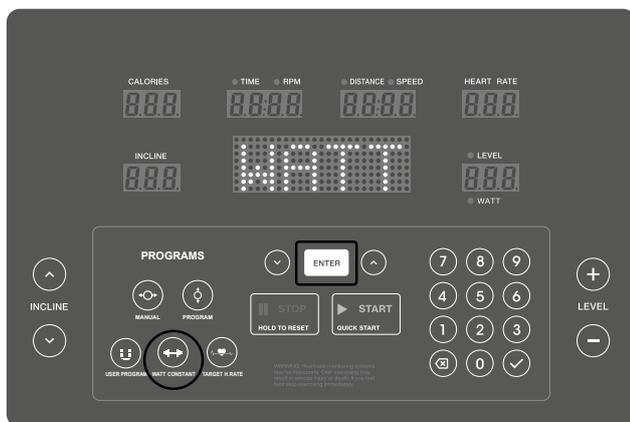
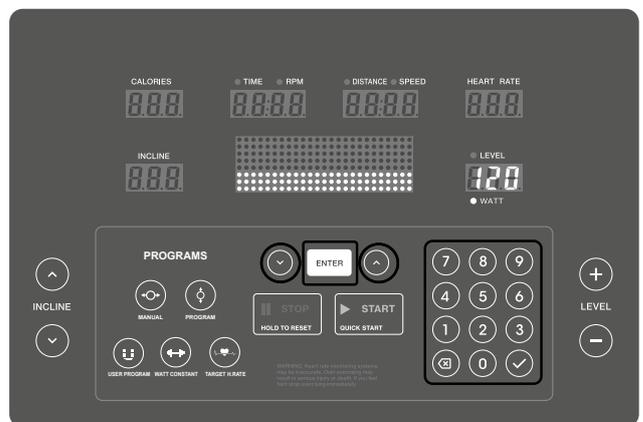

FIGURE 14
FIGURE 15
1. Select WATT CONSTANT (Figure 14).
*The preset watt value (120) will be displayed.*
3. Adjust the desired watt value using the arrow keys (^/v) (Figure 15).